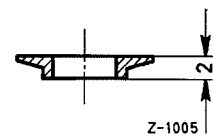

Figure 01-1/8
**Note:** The sealing ring (4) between nozzle holder and pre-combustion chamber (see Figure 01-1/9) was modified to eliminate knocking during take-off and driving. The new sealing ring Part No. 636 017 01 20 (Figure 01-1/8) with a total height of 2 mm is 2 mm lower than the 1st version according to Part No. 312 017 04 20 (Figure 01-1/7) and is standard now in all types of engine models OM 621 and OM 636.